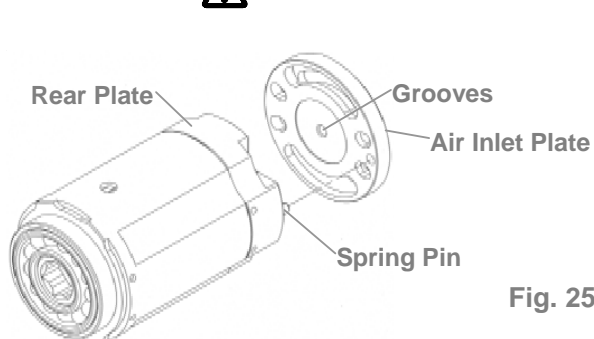

Fig. 251
- ② Make the groove of the air inlet plate toward the rear plate and assemble. Make sure the holes aim at the pin while assembling, Fig. 251.
- ③ Assemble the regulator with the rotor- air inlet unit. Make sure the steel balls of the regulator are placed on the holes of the air inlet plate. Then, place the seat with the o-ring sleeved on the regulator. Assembly is completed.